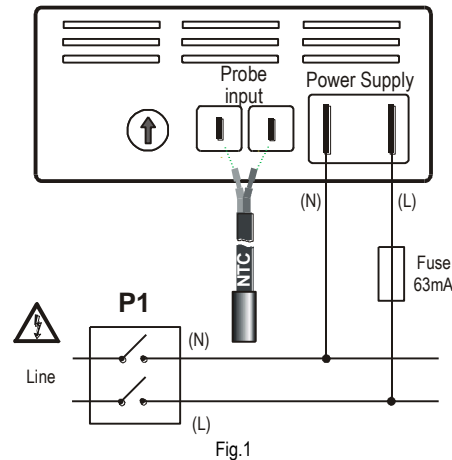

Fig.1
## 3. INSTALLATION - 230V OR 115V VERSION (FIG.1)
3. **⚠ Disconnect the power supply from the board by means of the panel switch (P1 in Fig.1)**
7. If possible, the manufacturer suggests connecting the phase (L) to the fast-on on the right and neutral (N) to the fast-on on the left as indicated.
## 4. DISCONNECTION AND PROBE SUBSTITUTION (FIG.1)
1. **⚠ Disconnect the power supply on the board where the instrument is positioned, by means of the panel switch (P1 in Fig.1)**